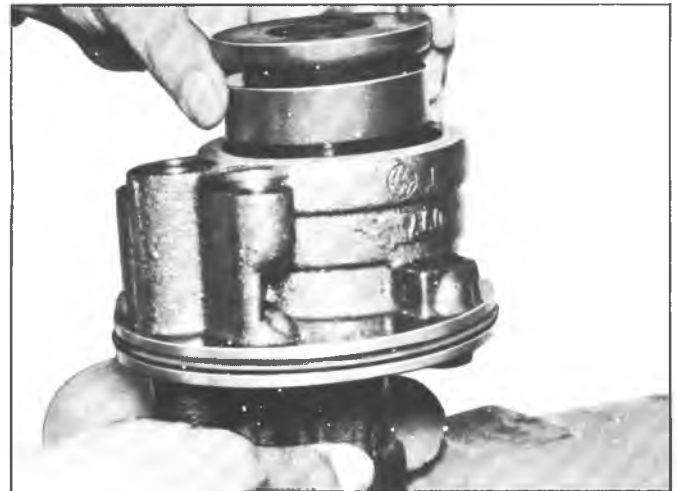

Fig. 19--Impeller Unit Removal
9. With the pump still in a vise, remove the shaft woodruff key and tap end of shaft gently with a soft hammer until the shaft, pressure plate, pump ring, rotor assembly and thrust plate can be removed as a unit (fig. 19).